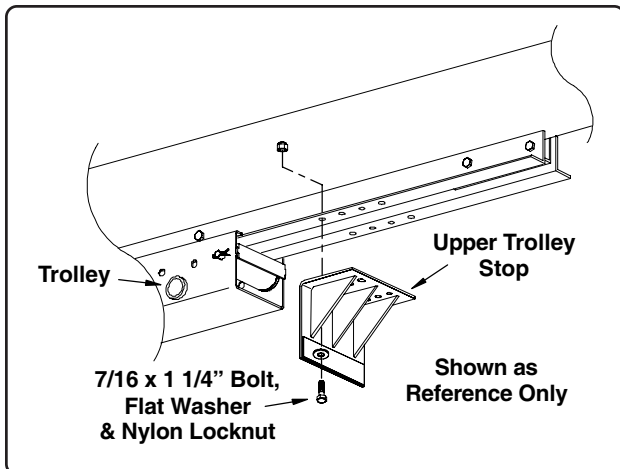

Fig. 32
2. Locate the eight (8) mounting holes (4 in each track) in the upper track sections. Secure the upper trolley stop to the tracks using eight (8) 7/16" x 1 1/4" bolts, flat washers and nylon locknuts as shown in Fig.32. Use a strap or similar means to temporarily secure the trolley to the upper stop to prevent it from rolling during the remainder of the auger assembly process.